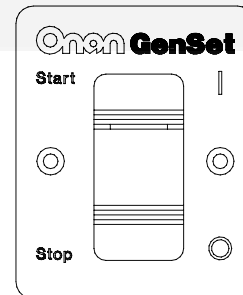

FIGURE 4. START/STOP
- Remote switch with indicator lamp only (Figure 4).